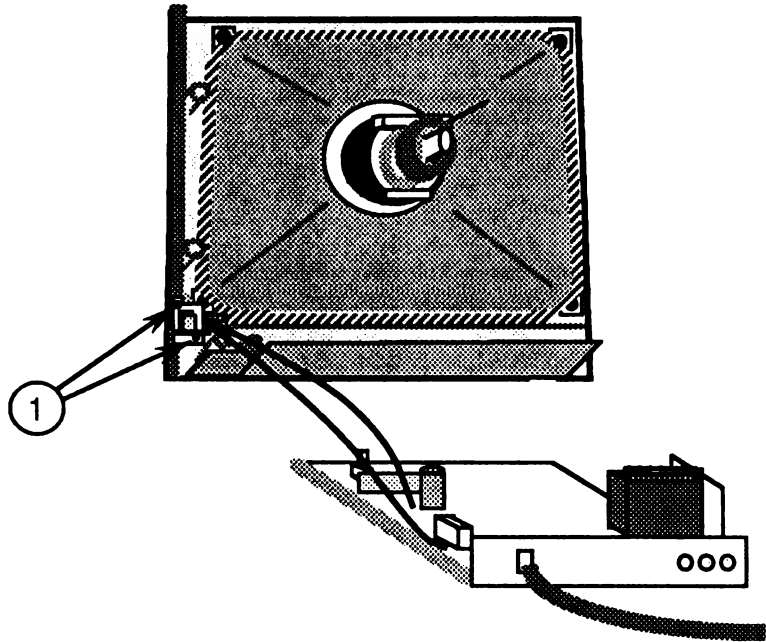

FIGURE 17
- a) Remove the two screws (Figure 17, #1) that secure the on/off switch bracket to the front bezel.